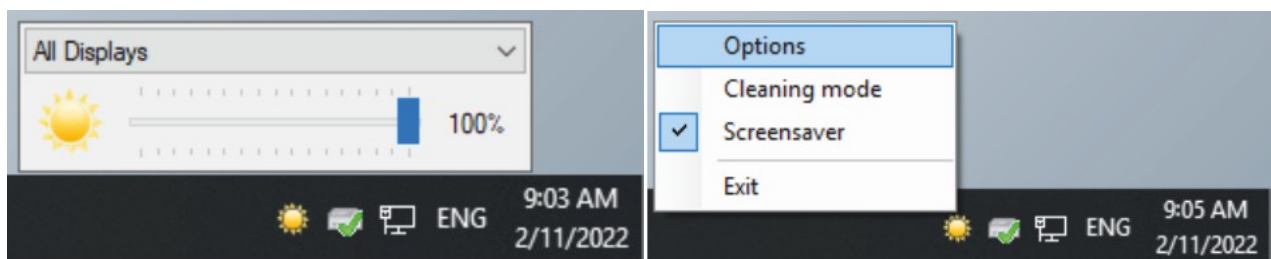

Fig. 1: Possibilities sun symbol
In the delivery state, the Display Control Tool does not start automatically when the PC is started. You need to click the icon on your desktop first. The tool will start and a small sun will appear in the bottom right corner of your taskbar. If you left-click on the sun, you can adjust the brightness manually. Right-click to display the various functions that you can activate by clicking on them, as well as the "Options" area (see Fig. 1).
- Manually: by left-clicking on the sun in the taskbar (see Fig. 1). You can additionally select which displays are to be dimmed.